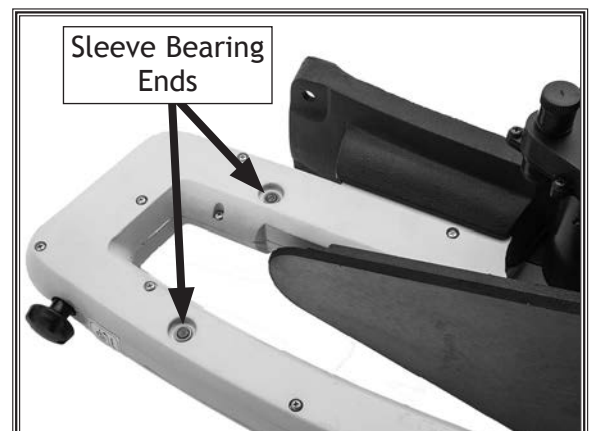

Figure 32. Plastic caps removed to expose sleeve bearing ends.
2. Remove plastic caps to expose sleeve bearing ends (see Figure 32).